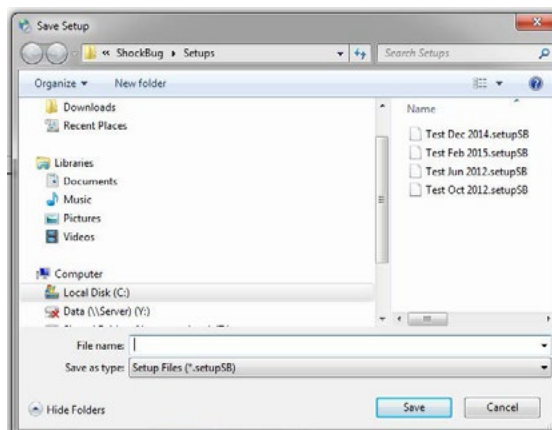

Figure 6
3. A Save Setup screen will open, allowing you to enter the setup filename (Figure 6).